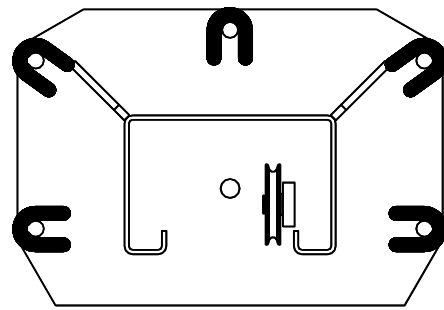

Fig 4 - Column Shimming
- Shim column to plumb using the shims provided as shown in **Fig 4**. **DO NOT** shim more than 1/2" at any given point. Use a level no less than 24" in length to plumb columns.
- 16) Check idler column shimming. Use additional shims (see Fig. 4) to remove any gaps that may have been created while installing overhead beam. Repeat steps 6-10 for the Idler Side Column anchoring.